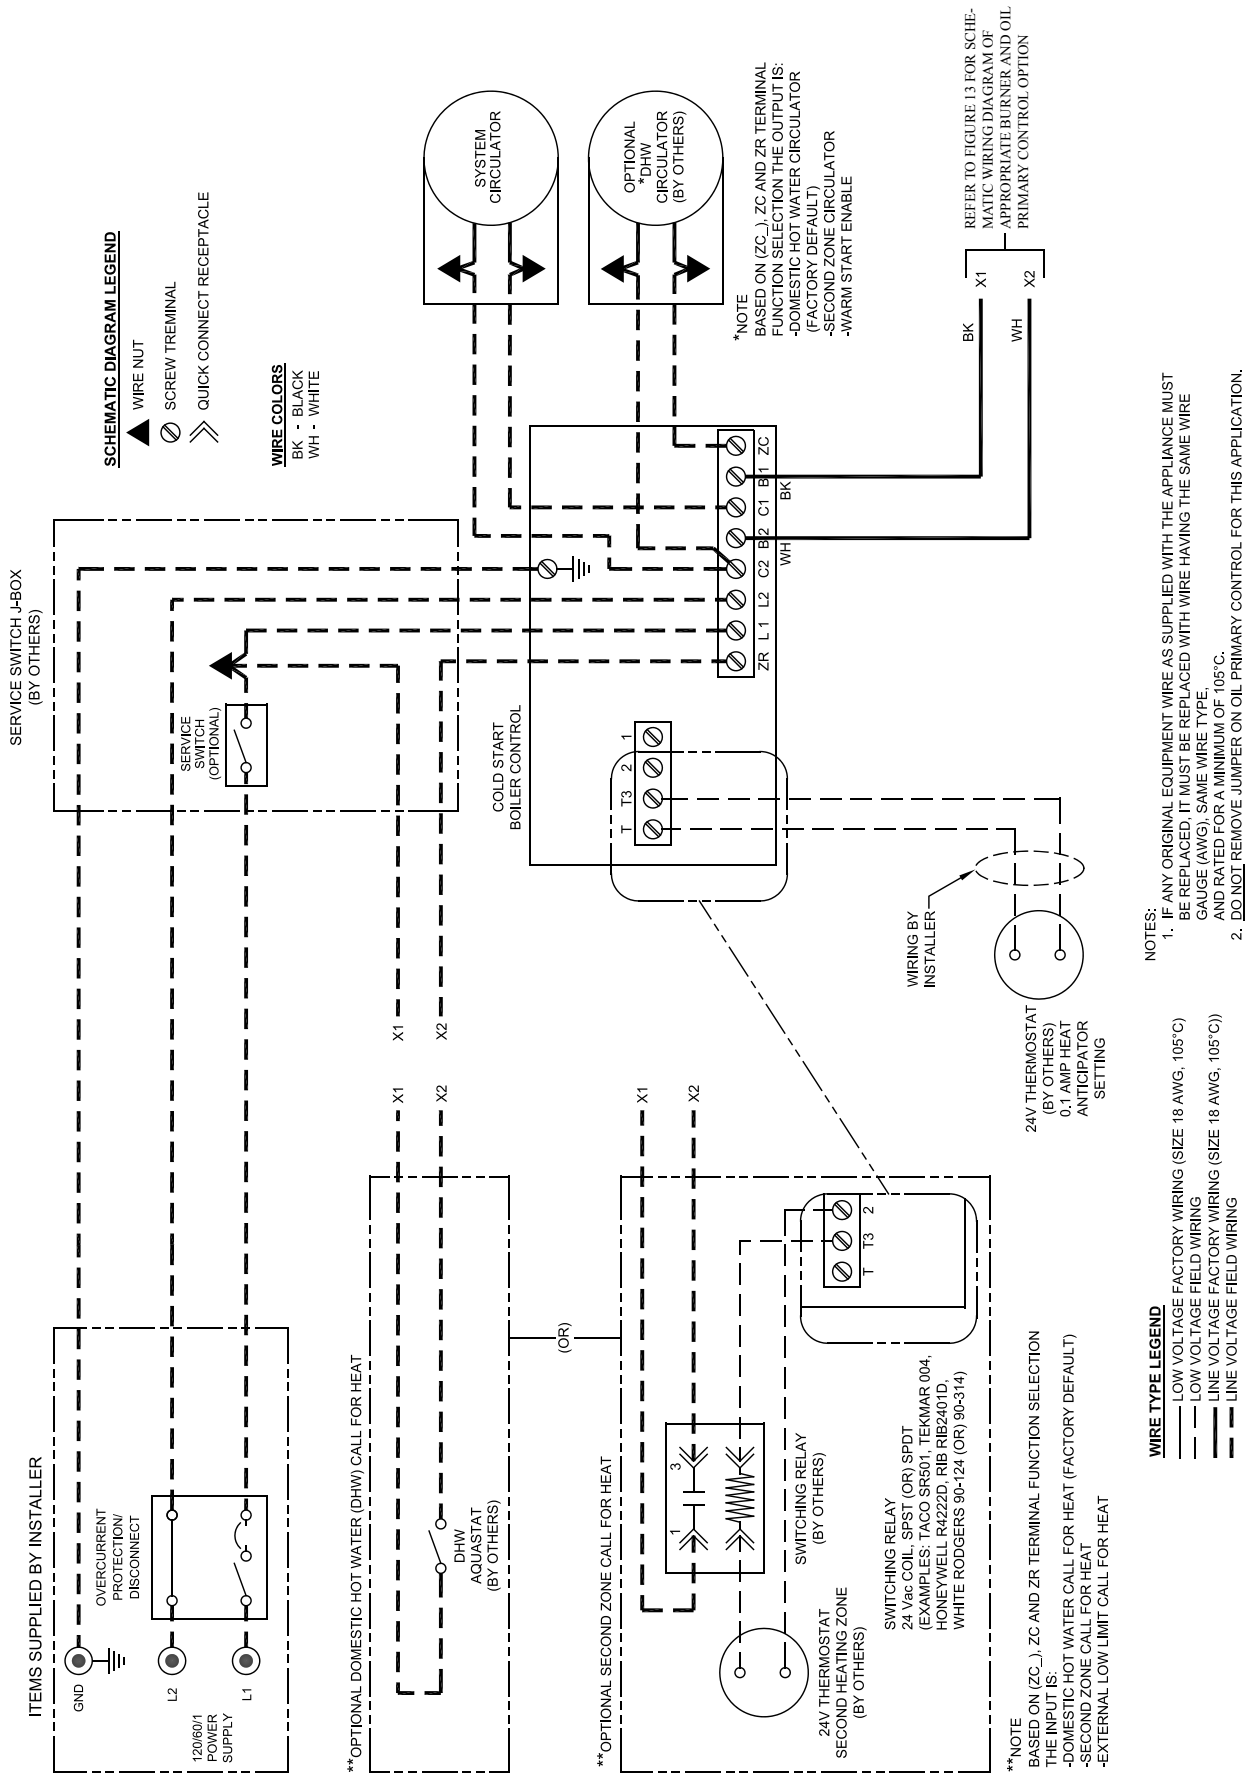

Figure 11: Schematic Wiring Diagram, without Tankless Heater, Cold Start Control (Beckett Burner)
4. Wiring should conform to Figures 11 thru 13 of this manual.
3. Use armored cable (BX) over all exposed line voltage wiring.
5. Single or Multiple Zone Water System – Refer to Figures 11 and 12 for electrical diagram. Connect the system circulator wire leads to the proper locations on the Aquastat control, L7224 or L7248. See Figure 11 or 12.